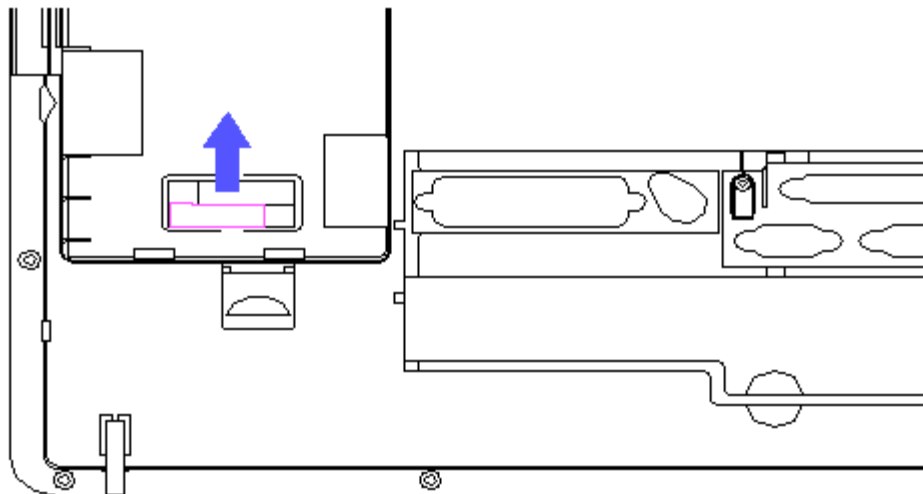

Figure 3-30. Removing the Battery Eject Spring
5. Turn the back cover over and slide the eject spring out (Figure 3-30).